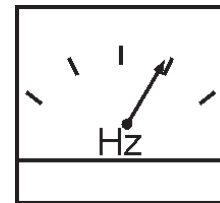

Figure 32. Frequency Meter (Hz)
- The generator's frequency meter (Figure 32) should be displaying the 60 cycle output frequency in **HERTZ**.